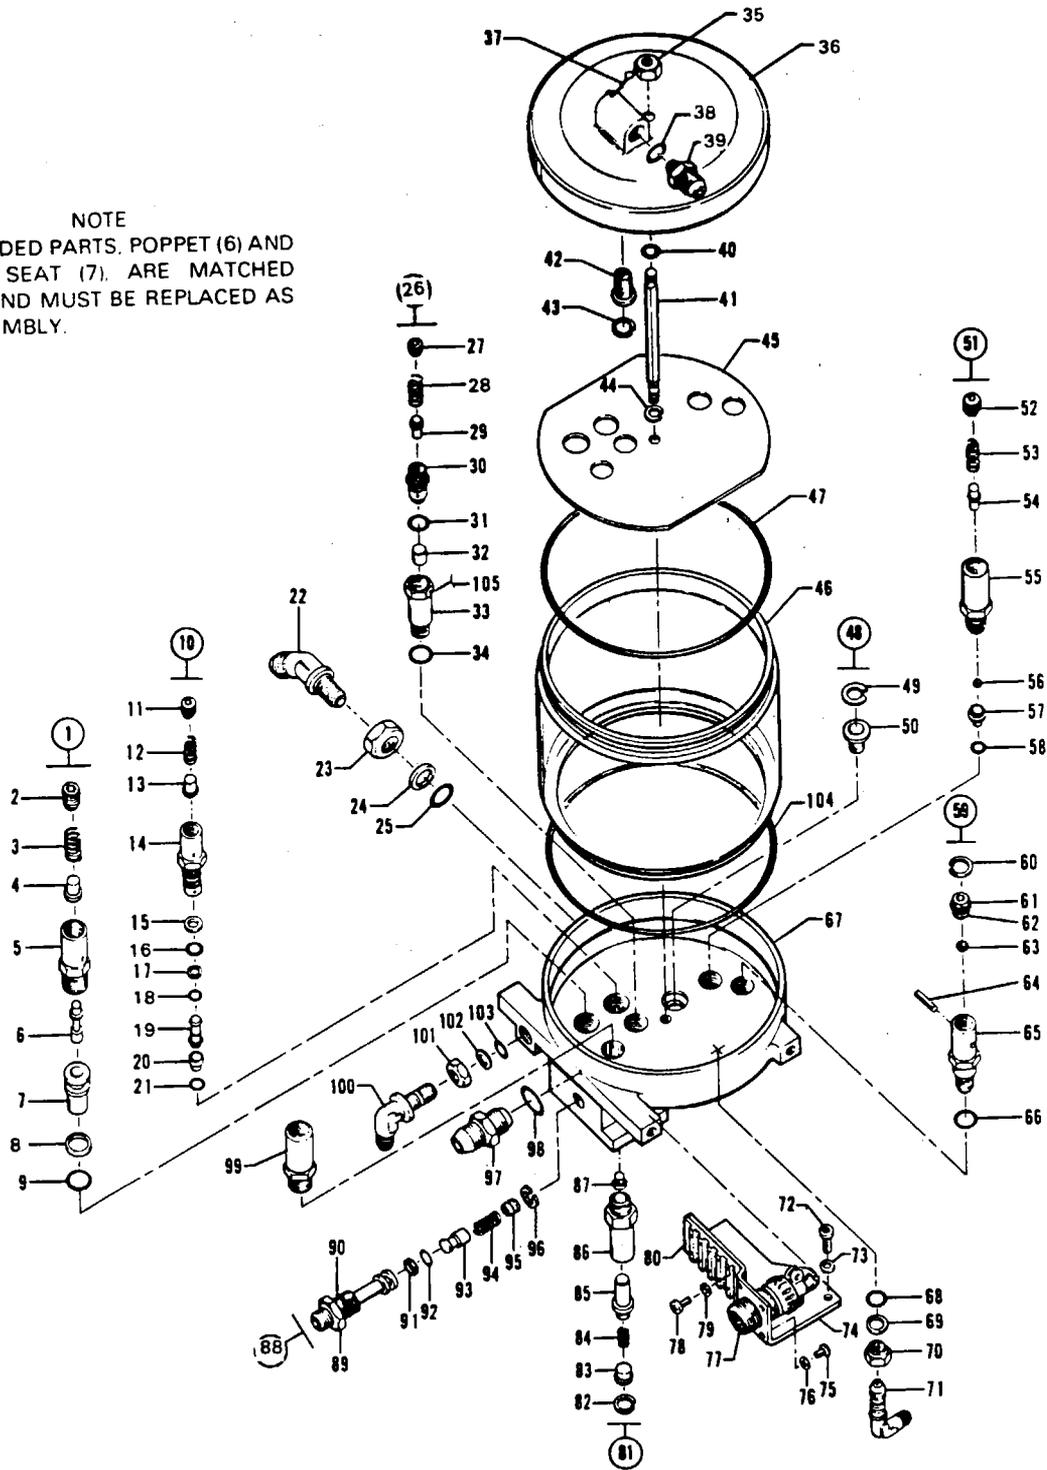

Figure 29-5. Hydraulic Power Pack
**POWER PACK.** (Refer to Figure 29-5.)